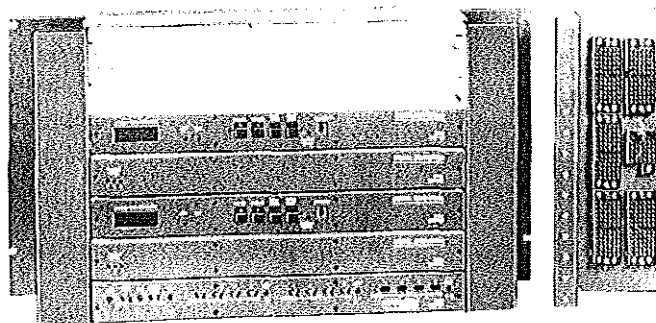

Fig. 11 - DMS-10 Interface System
4.14 Digital Announcers may also be used in conjunction with telephone switching equipment to provide electronic announcement capabilities. The DMS-10 Digital Announcer System Interface (figure 11) provides up to twelve individual messages in a plug compatible equipment module. This system fits into the space normally occupied by analog message announcement equipment. A quick-release rack mount holds the interface and up to three Digital Announcers.